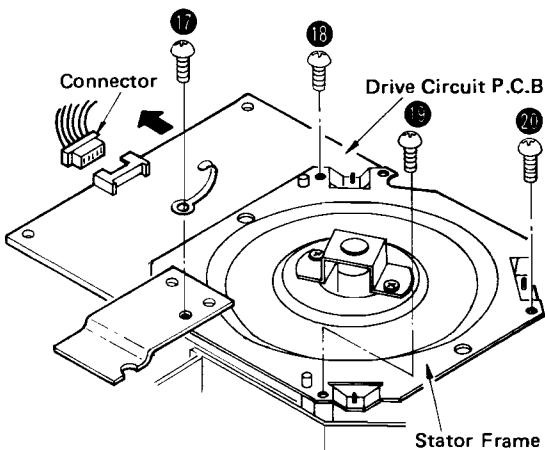

Fig. 9
2. Remove the 4 setscrews (Fig. 9: 17 ~ 20) of the stator frame.